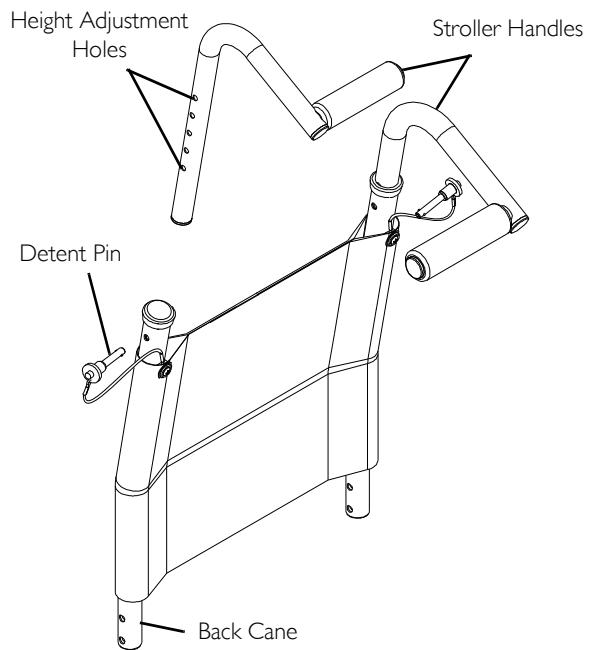

FIGURE 3 Installing/Adjusting Stroller Handles
- 12-14-Inch Wide Wheelchairs - Insert one of the stroller handles into one of the back canes so that it is facing either toward or away from the inside of the wheelchair FIGURE 3.
- 10-Inch Wide Wheelchairs - Insert one stroller handle into one of the back canes so that it is facing away from the inside of the wheelchair FIGURE 3.